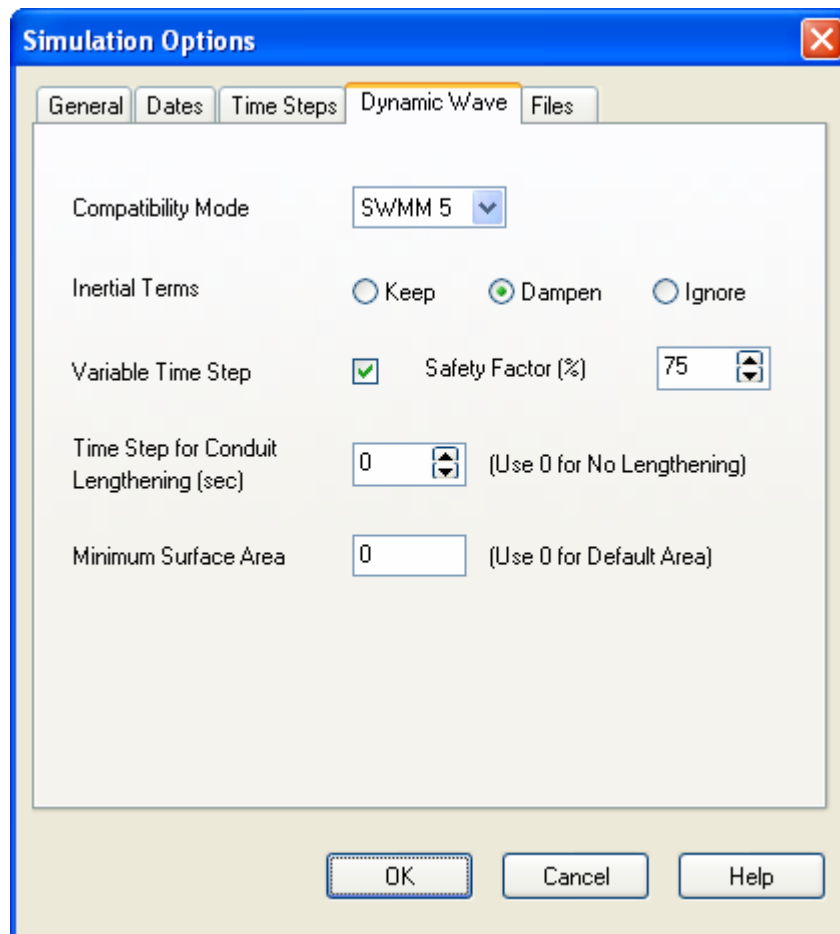

Figure 2-18. Dynamic Wave simulation options.
3. On the Dynamic Wave page of the dialog, use the settings shown in Figure 2-18¹⁰.